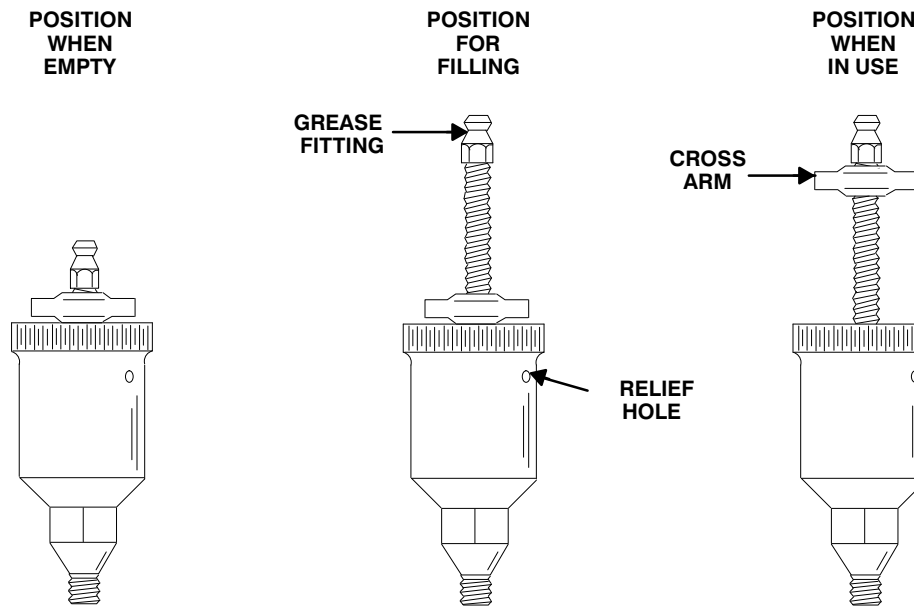

Figure 7. Automatic Lubricating Grease Cup
Fill the grease cup (17) through the grease fitting with No. 2 lithium base grease until grease escapes from the relief hole. Turn the grease cup arm counterclockwise until it is at the top of the stem; this will release the spring to apply grease to the seal (see Figure 7).